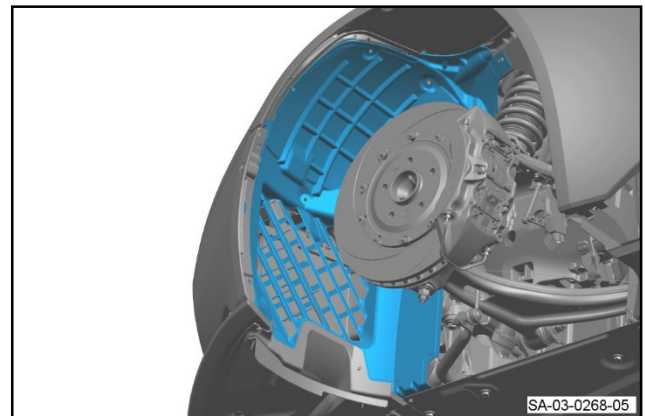

Figure 5
6. Remove the front section of the front left side wheel arch liner (refer to Figure 5).